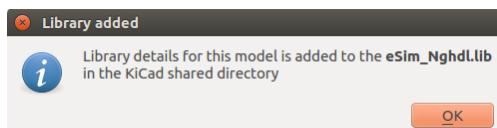

Figure 10.4: Uploading of digital model
2. Now browse and locate the VHDL file to upload. Select the VHDL file and click on the Upload button. This process will create Ngspice model and corresponding component drawing inside the KiCad library (eSim_Nghdl.lib) of the VHDL block to be used in mixed-signal simulations. An acknowledgement message will appear upon successful processing of the VHDL code as shown in Fig. 10.4.